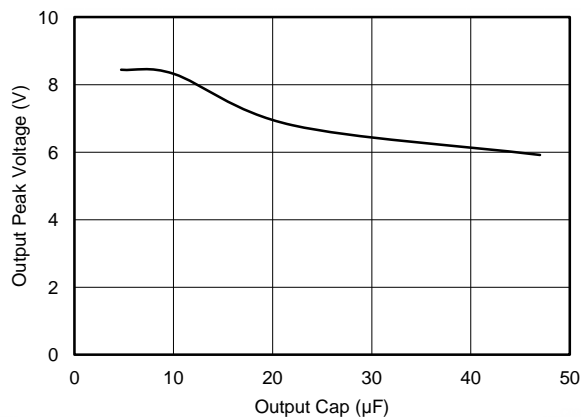

Figure 17. V_{OUT} Peak Voltage vs C_{OUT}
When V_{IN} ramp up exceed 7.6 V, V_{OUT} will follow V_{IN} until TPS25200 turns off the internal MOSFET after $t_{\text{OVLO_off_delay}}$. Since $t_{\text{OVLO_off_delay}}$ largely depends on the V_{IN} ramp rate, V_{OUT} will see some peak voltage. Increasing the output capacitance can lower the output peak voltage as shown in Figure 17.
- For output capacitance, refer to Figure 17, low ESR ceramic cap is recommended.